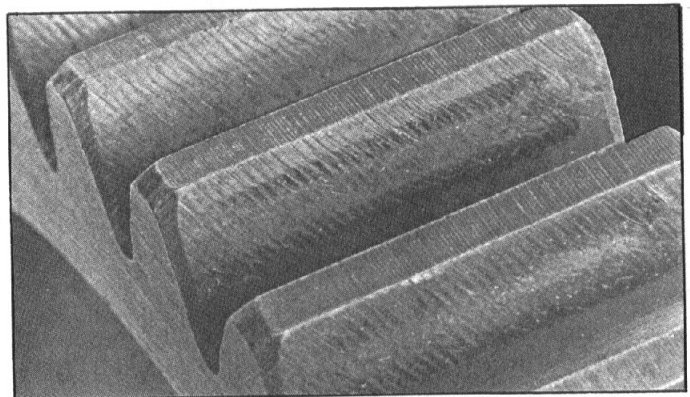

Figure 7. Shaving marks
2. **Shaving marks** — The shaving operation leaves distinct diagonal marks on the face of the gear tooth, Figure 7. These marks can be distinguished from scoring marks by the fact they are diagonal, while scoring marks are more nearly vertical. Most shaving marks are removed during normal gear operation.